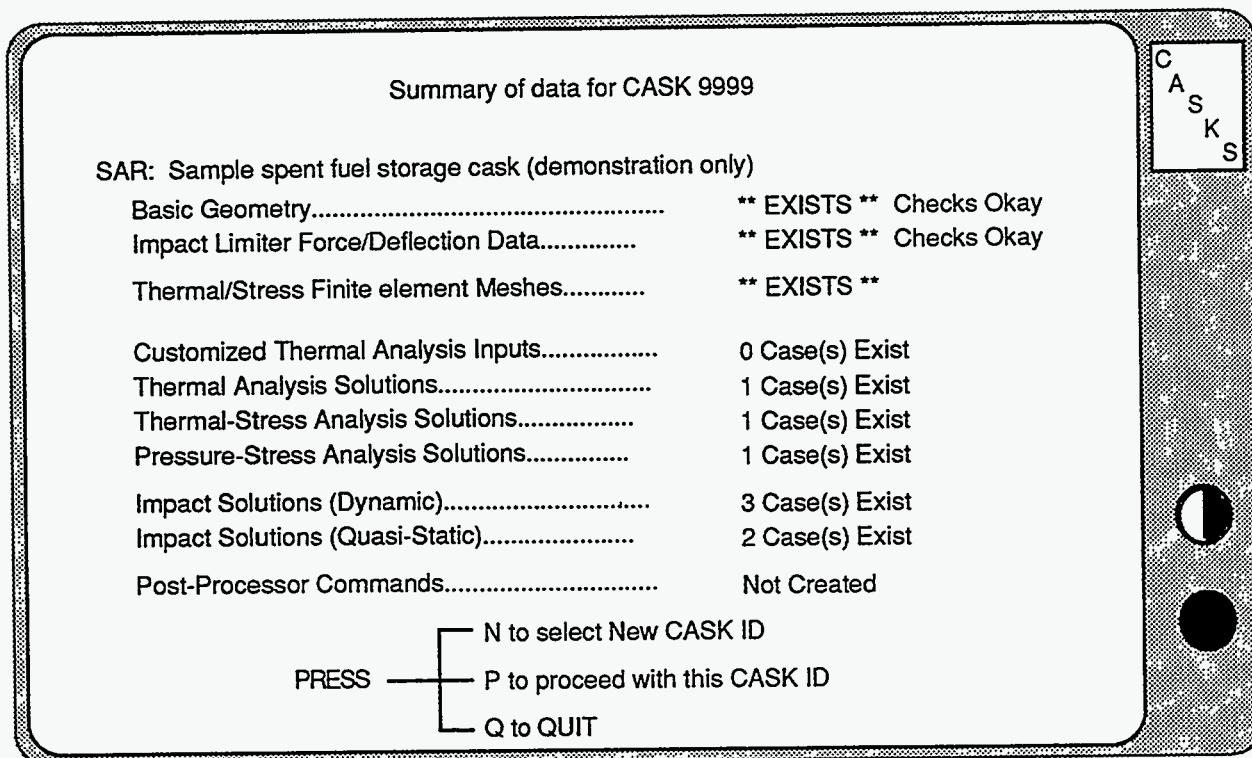

Figure 1-3. Cask data set summary screen.
*When only one data set exists*, **CASKS** displays a summary of the data set (**Figure 1-3**) and offers three choices: